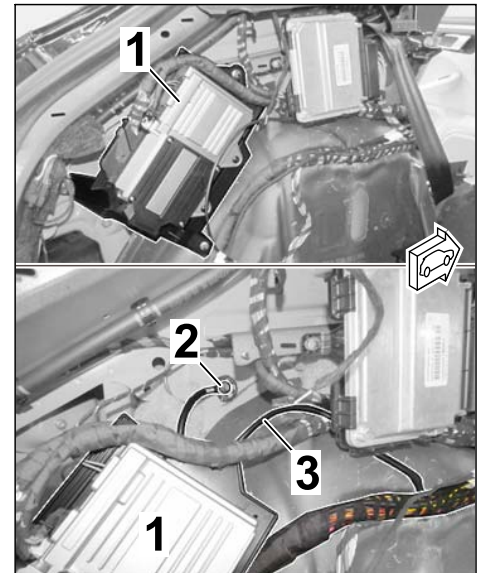

Figure 37
- 3.1.3 Fit cable ring eyelet A6 (ground) on ground pin MB 43 (\Rightarrow Figure 37)